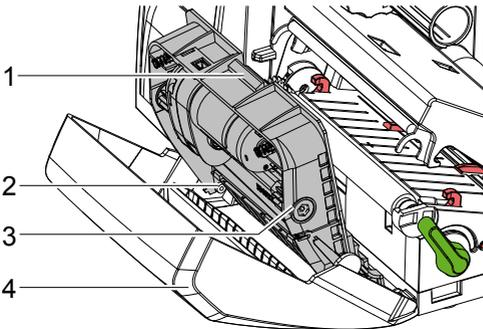

Fig. 18 Dismount Cutter
- ▶ Turn shaft (6) clockwise using a torx wrench TX10 until the gear racks (7) cannot engage anymore.
- ▶ Pull upper blade (9) out of the guides (8).
- ▶ Take out lower blade (10).
- ▶ Push lower blade down into the guides (11).
- ▶ If necessary, put springs (12) back into spring retainers (13).
- ▶ To re-mount the upper blade push lower blade down on the cover and push upper blade into the guide until the gear racks (7) can engage with the gear wheels (5).
- ▶ Turn shaft (6) counterclockwise using a torx wrench TX10 until the blade reaches the upper limit.
5. Fit blade unit (3) according to Fig. 18 into the axes (2) and fold it towards the cover (4) until it snaps in.